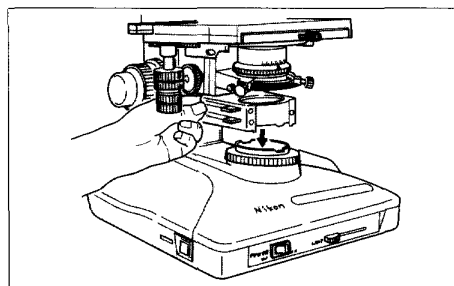

Fig. 2-19
② Mounting and Dismantling the ND Filter Cassette
- Push down the ND filter cassette from the top so the two protrusions of the lower part of the ND filter cassette fit with the two mounting grooves on the rim of the field lens of the microscope base (Fig. 2-19).